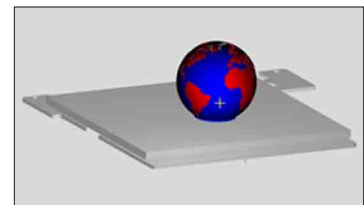

Fig. 80
- Continue this process until all the shells are colored as desired. (Fig. 80)